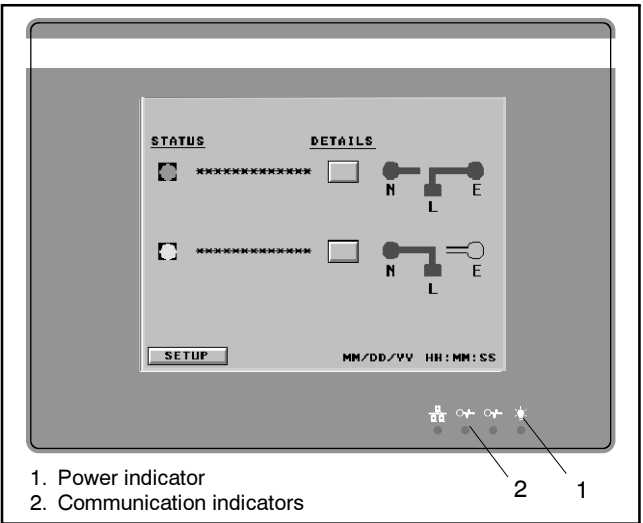

Figure 15 Annunciator LEDs
2. Four LEDs indicate the annunciator status. See Figure 15. The rightmost LED lights to indicate power to annunciator. The other LEDs light and flicker to indicate communication between the annunciator and the transfer switch network. If the communication LED flashes steadily, the annunciator is not communicating with the transfer switch network.